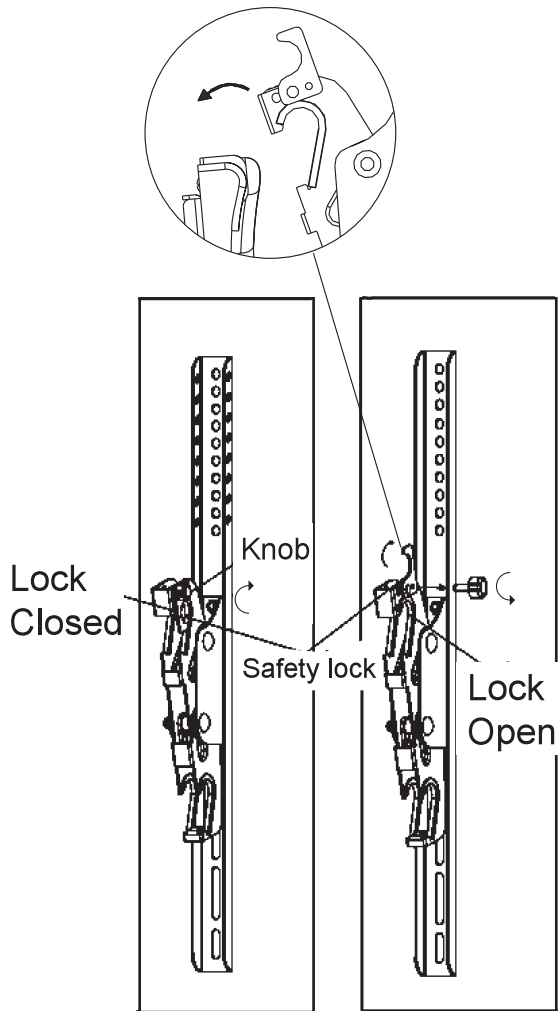

Fig. 5a
1. Prior to lifting the display, make sure that the safety lock is in the open position as shown in (Fig. 5a & 5b).